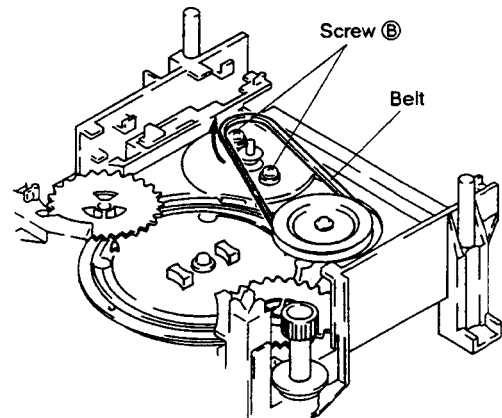

Fig. 2-11
- (4) Turn over the loading base once again, and tighten the loading motor with two screws ⑤ and set the belt as shown in Fig. 2-11.